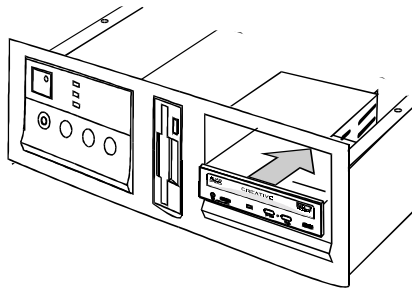

Figure 2-6: Inserting your CD-ROM drive.
6. Insert your CD-ROM drive into the vacant drive bay as shown in Figure 2-6.